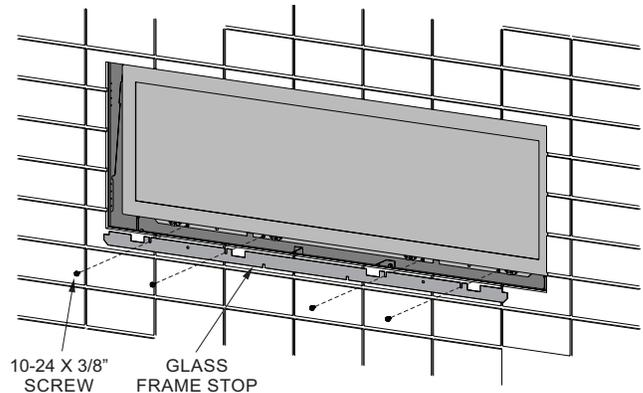

Figure 28
Before the Glass Door can be removed, a Door Limiter Bracket must be removed. Using a 5/16-inch hex nut driver, remove (5) #10-24 x 3/8-inch screws that retain the Limiter Bracket to the bottom flange of the Glass Door frame, and set the bracket aside. See Figure 28.